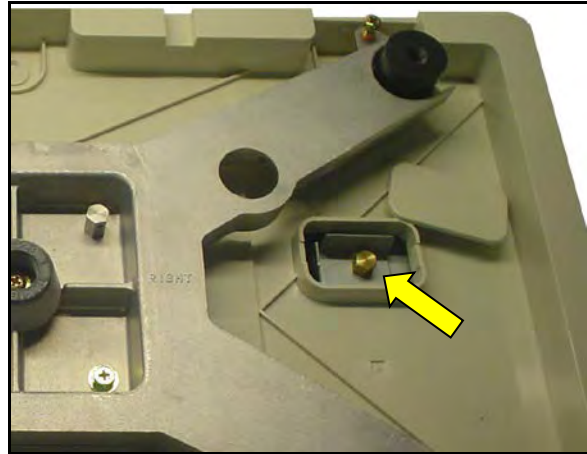

Figure 58. Calibration Access
- Remove the small plastic rectangular cover and the seal bolt and metal cover to access the button. See Figure 58.